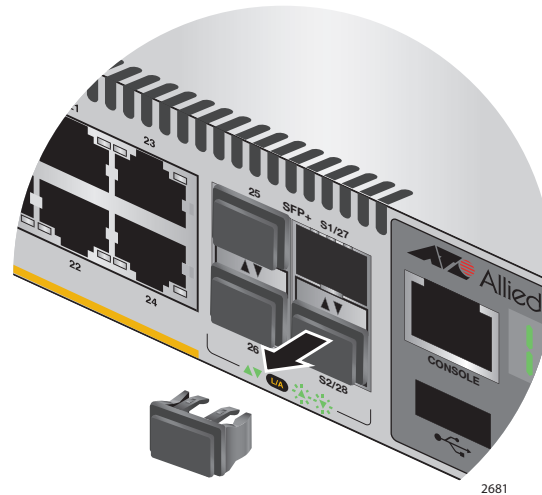

Figure 55. Removing the Dust Plug from the S1 Slot
1. Remove the dust plug from the S1 slot on the top switch of the stack, as shown in Figure 55.